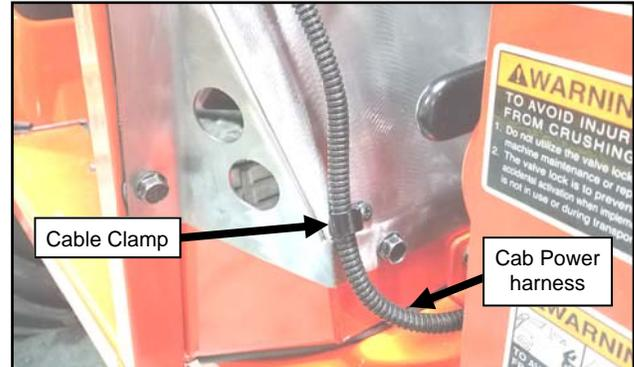

Fig. 16.7 (Secure Harness with Cable Clamp)
- 16.7** Secure the wire harness to the outside of the cowl with a cable clamp. See Figure 16.7.